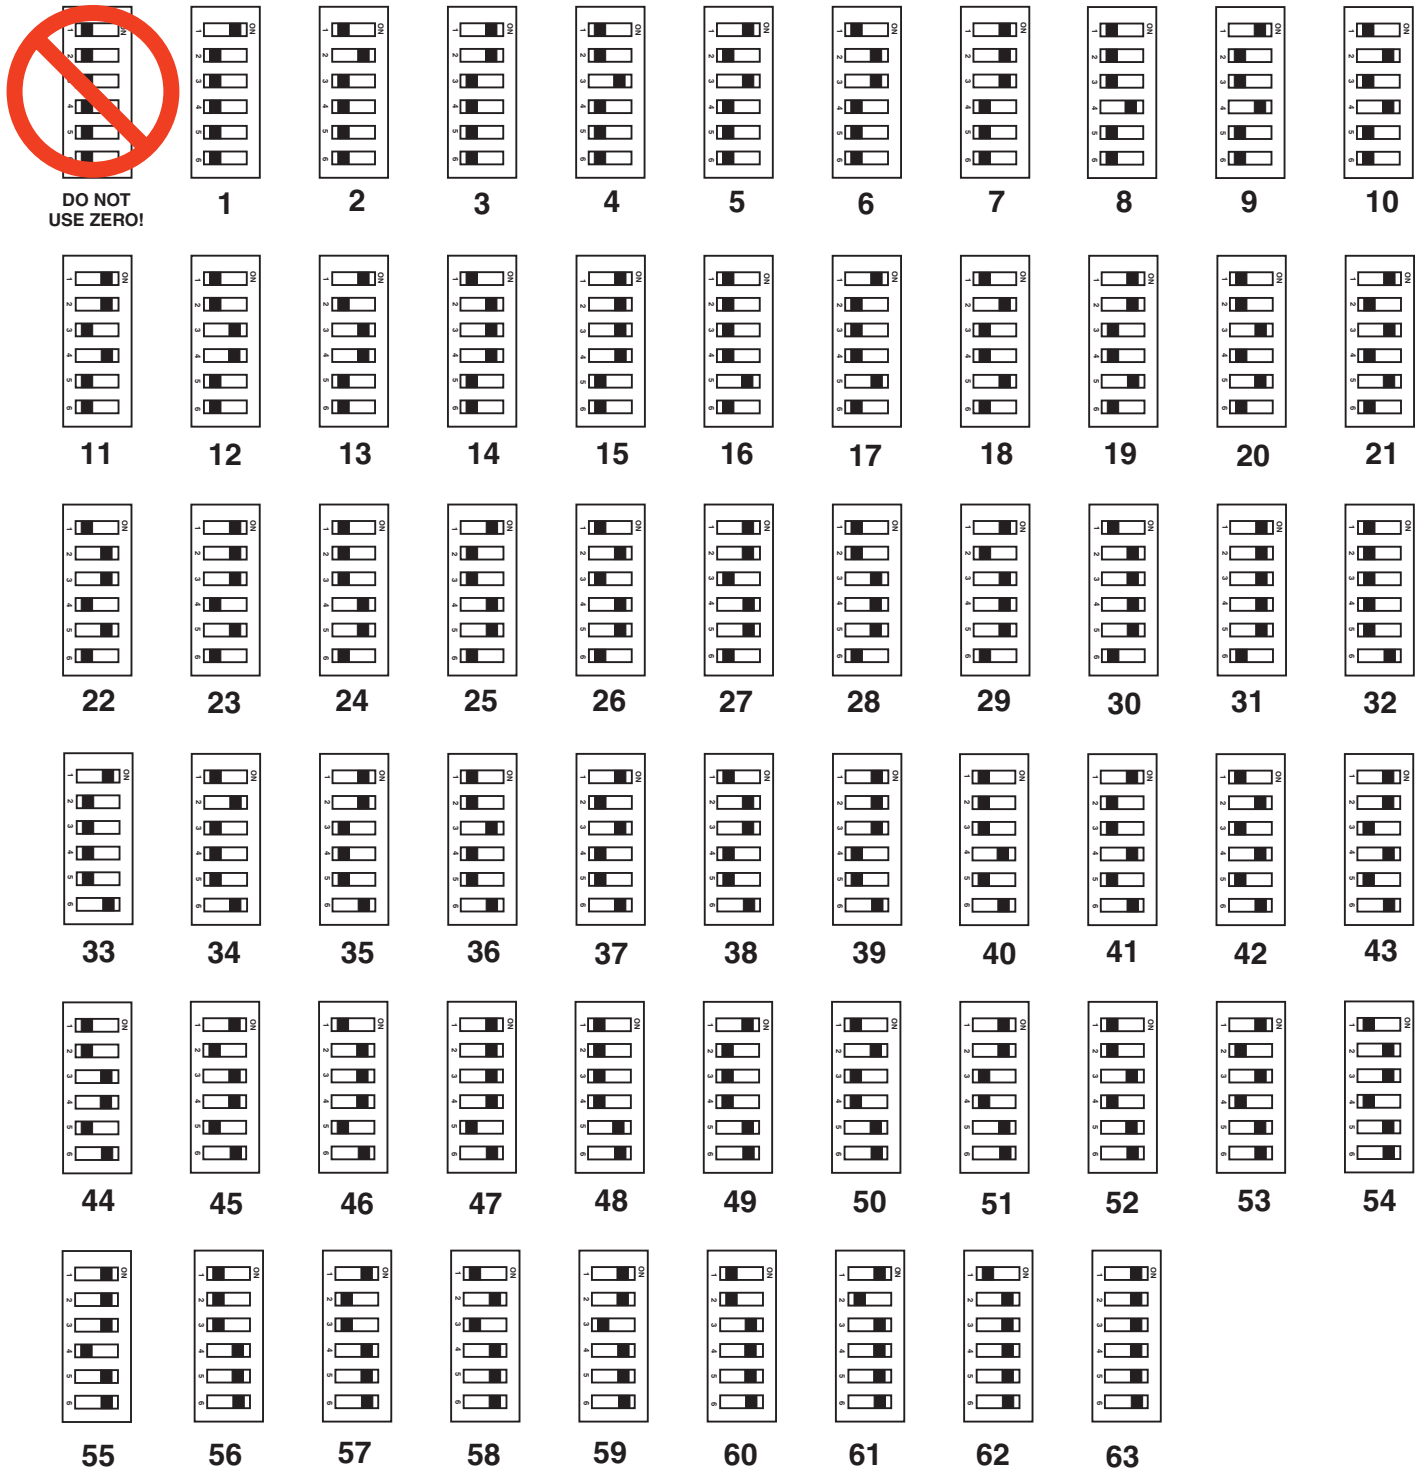

Figure 2 Address selection switches
1. Each Modbus device on a communication string must have a unique address. Before connecting the meter to the RS-485 communication wires, choose an address that is not in use, and set the switches as shown in Figure 2 on page 4. If the address conflicts with another device, neither device will communicate.